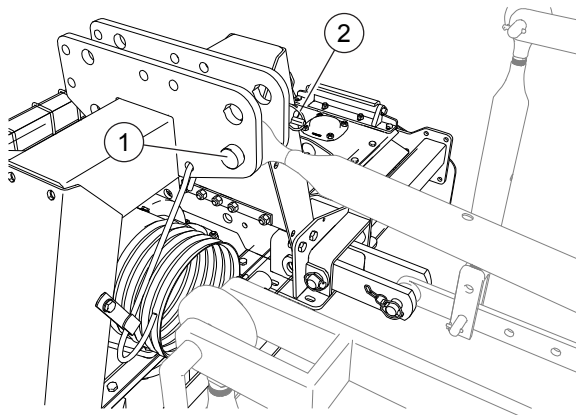

FIG. 19
- Move the tie-rod of the power-lift to the three-point hitch (“Fig. 19”). Set the tie rod so that the machine stays on the ground. Insert the attachment pin (1). Lock the pin with the trigger split pin (2), part of standard equipment.